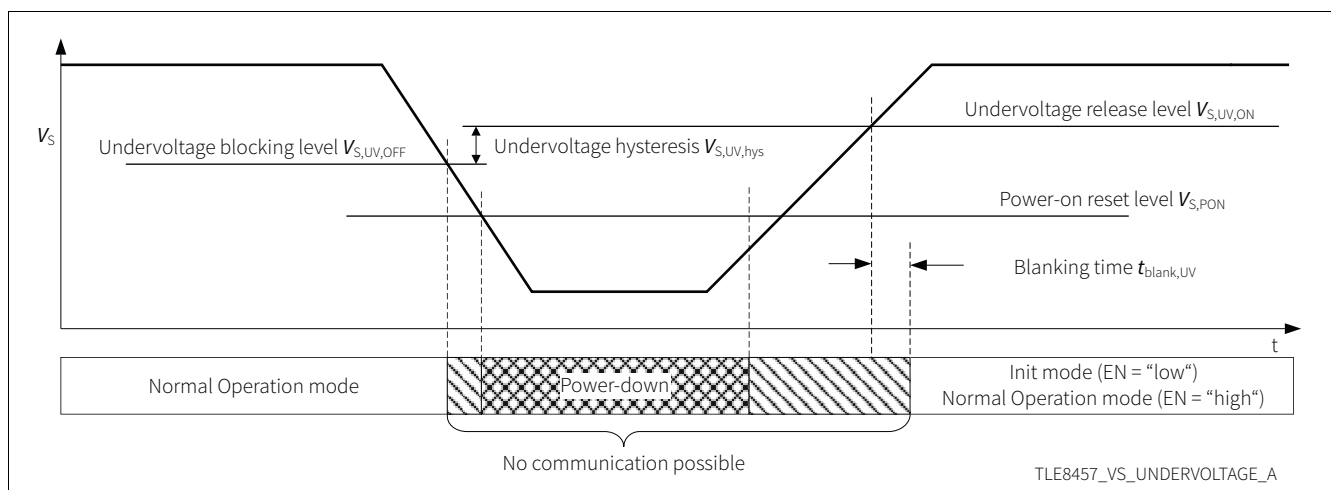

Figure 10  $V_S$  undervoltage detection
- In case the power supply  $V_S$  drops below the power-on reset level  $V_{S,PON}$  the TLE8457 not only blocks the transceiver communication, it also changes the operation mode to Init mode after recovery of  $V_S$ , see Figure 10. In Init Mode the TLE8457 indicates a power-up event on the RxD pin. The power-on reset detection is active in all operation modes.